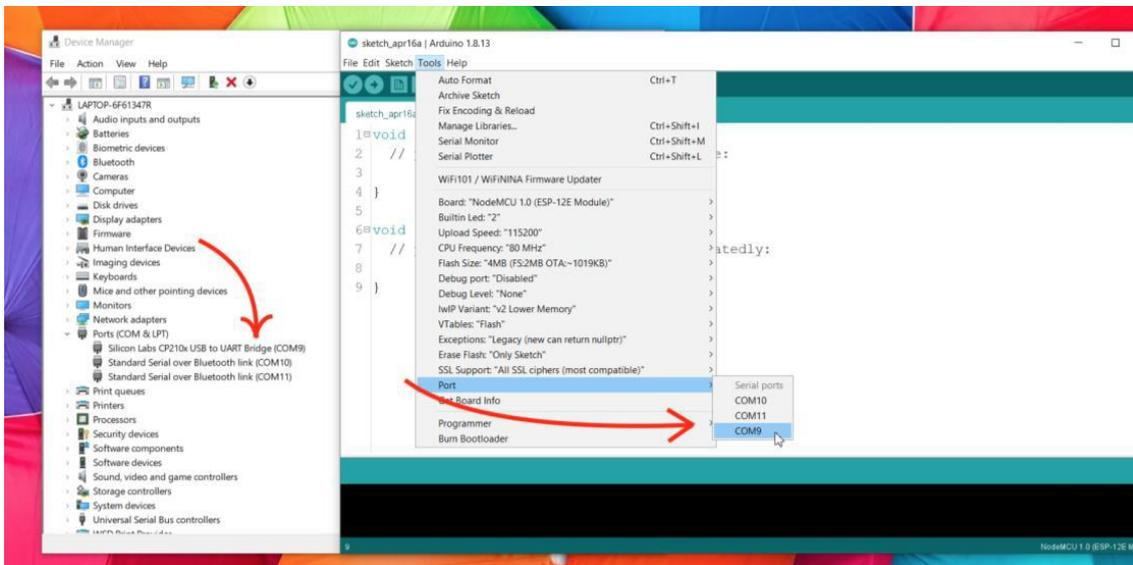

Figure A1
2. From menu, **Tools >> Board: "name of development board" >> ESP8266 Boards (version) >> NodeMCU 1.0 (ESP-12E Module)** and from menu, **Tools >> Port >> COMx** select the correct Port depends on Ports (COM & LPT) as shown in Device Manager (Figure A1)